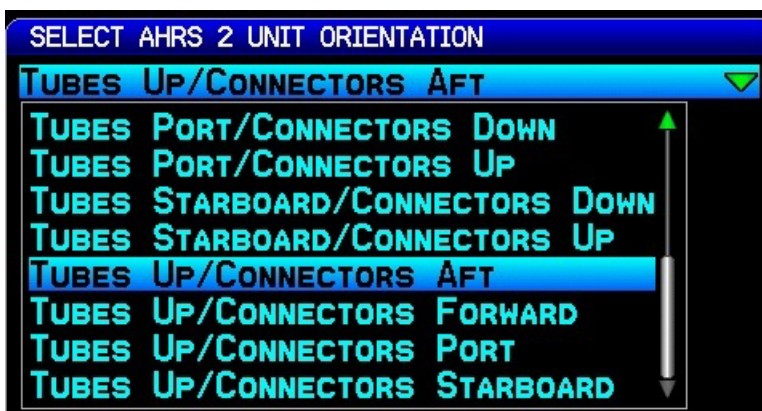

Figure 10-2 AHRS Orientation Selection
- Mount the GSU 25 with the connectors aligned within 1.0 degree of either the longitudinal or lateral axis of the aircraft. The direction of the unit will be accounted for during the calibration procedure as shown in Figure 10-2.